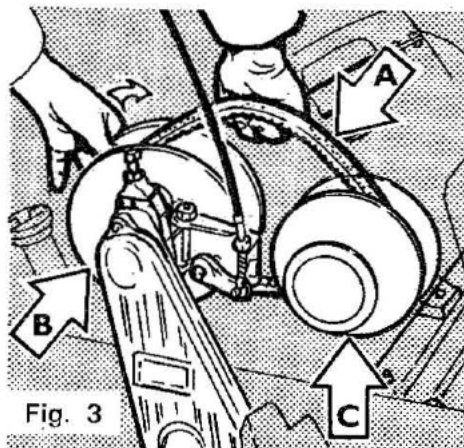

Fig. 3
- Pull up on top run of belt. While twisting moveable half of driven pulley Fig. 3.